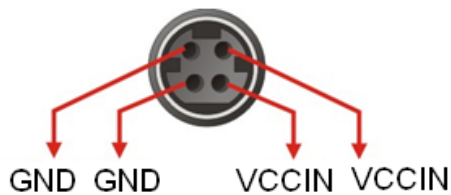

Figure 3-33: 4-pin Power Mini-DIN Connector
- CN Pinouts:** See **Figure 3-33**